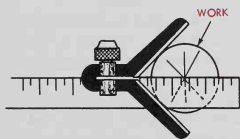
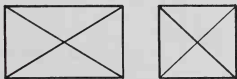

Fig. 10-11. Locating the center of round stock.
Fig. 10-12. Locating the center of square and rectangular stock.
1. Carefully locate the center on both ends of the stock to be turned. The center of round stock may be located using the centerhead of the combination set, Fig. 10-11. Rectangular and square pieces are easily centered by drawing diagonal lines, Fig. 10-12.